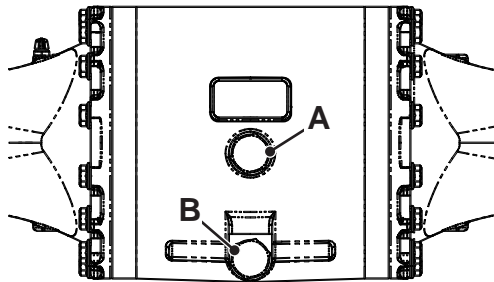

Fig 54.
- 2 Clean the area around the fill/level plug **A**. → Fig 54. (□ 3-64).